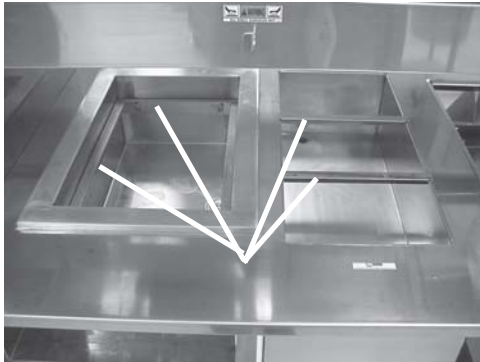

Figure 1
3. Place the pan supports in the hot and cold wells. Figure 1.